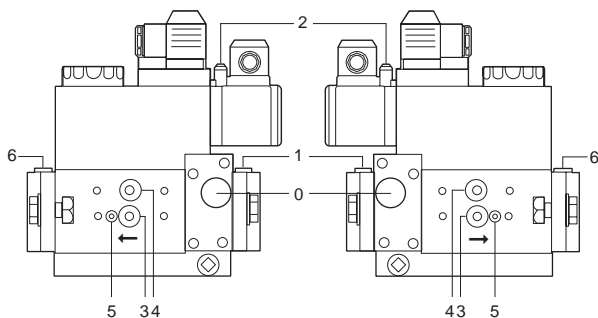
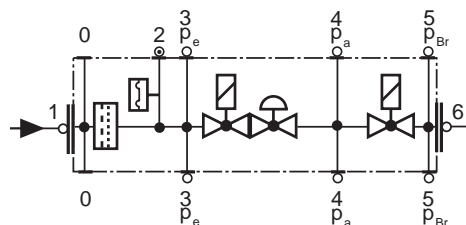

Fig. 12
Fig. 13
- Change the filter if the pressure difference between pressure connection 1 and 3 (Fig. 12-Fig. 13) is  $\Delta p > 10$  mbar.
- Change the filter if the pressure difference between pressure connection 1 and 3 (Fig. 12-Fig. 13) is twice as high compared to the last check.